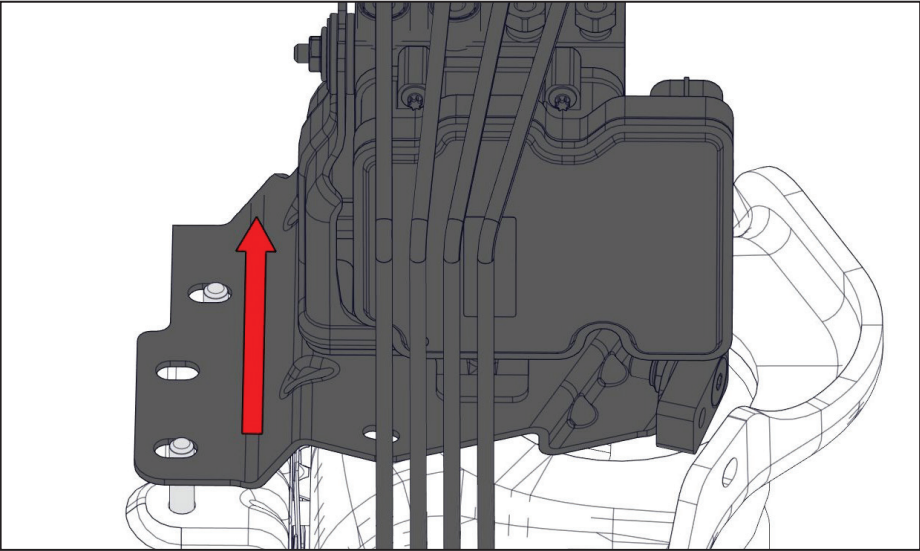

Figure 18 — Relocating the HCU
- ☐ Gently shift the HCU towards the firewall taking care not to bend or kink the brake lines. Align the bracket with the second set of mounting holes (Figure 18).